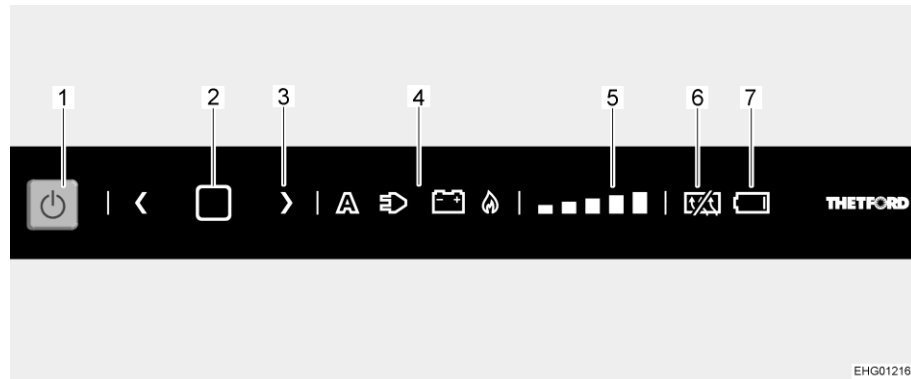

Fig. 149 LED operating panel
- Press and hold the On/Off button (Fig. 149,1) for 1 second. Button lights up blue. The last setting selected lights up.
- Press and hold the confirmation button (Fig. 149,2) for 2 seconds until the energy source symbol (Fig. 149,4) starts flashing.
- Press an arrow key (Fig. 149,3) to select the desired energy source.
- Press confirmation button (Fig. 149,2) to confirm the selection.
- Press confirmation button (Fig. 149,2) again. The cooling level indicator (Fig. 149,5) starts flashing.
- Press an arrow key (Fig. 149,3) to select the desired cooling level.
- Press and hold the On/Off button (Fig. 149,1) for about 2 seconds. All lights go out. Refrigerator is switched off.